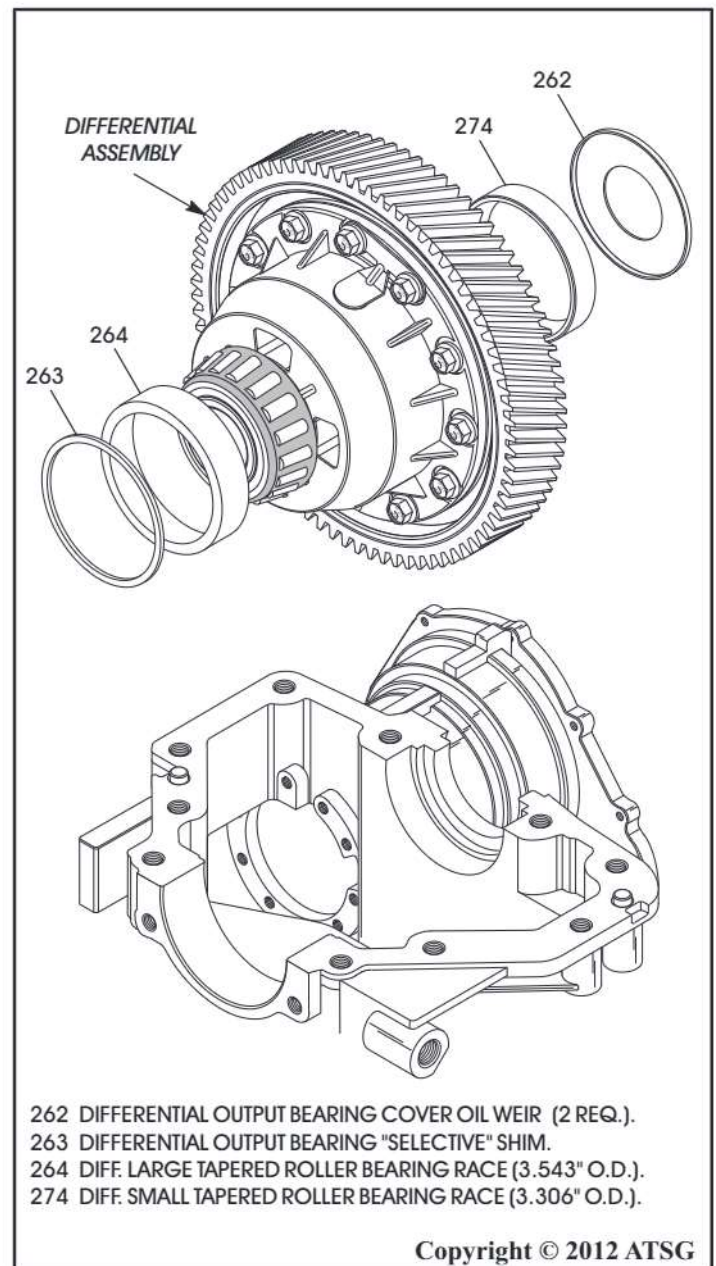

Figure 90
92. Remove the complete differential assembly, both bearing races and the oil weir as an assembly, as shown in Figure 90.